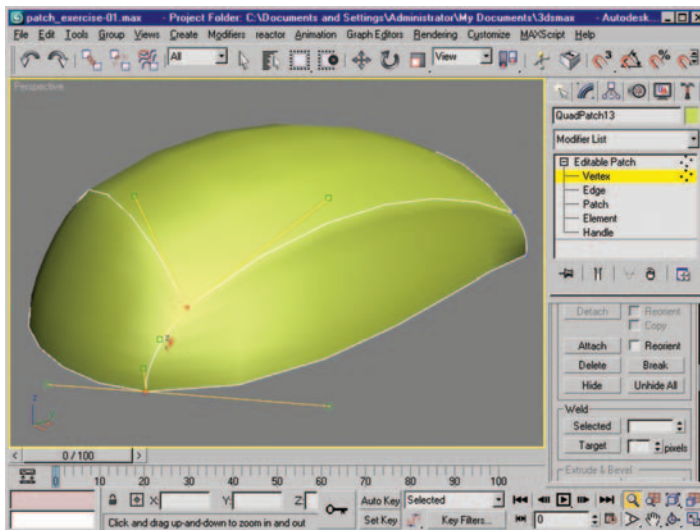

Figure 2.33 Welded points. Notice we still have Bezier handles that we can use to adjust the shape.
14. After the bottom two sets, let's go for the top two sets of verts. You will notice with your first weld that the gap along the side of the object vanishes. Repeat this action on the other side, and what we are left with is a single, flowing mesh. The nice thing about this technique is that we still have editable Bezier handles attached to each vertex, so we are not locked in to the shape we currently have (Figure 2.33).